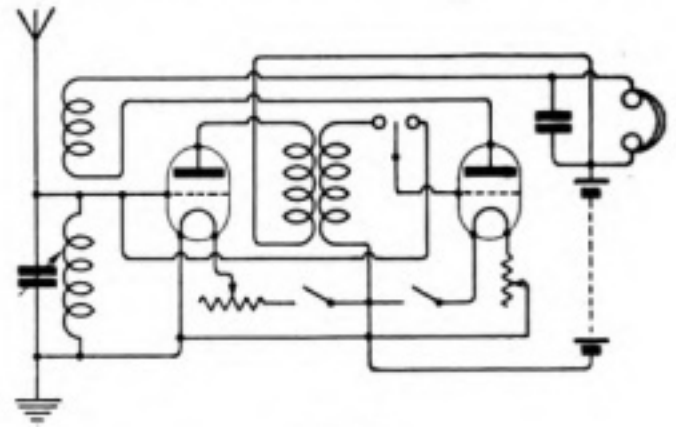

Fig. 6.
(1) The circuit will do, except that for transmission by arc, D.C. must be used with electrodes of copper and carbon. Consult a good text-book, as there are many technical points to be considered before successful radiation can be obtained. (2) See diagram (Fig. 6).